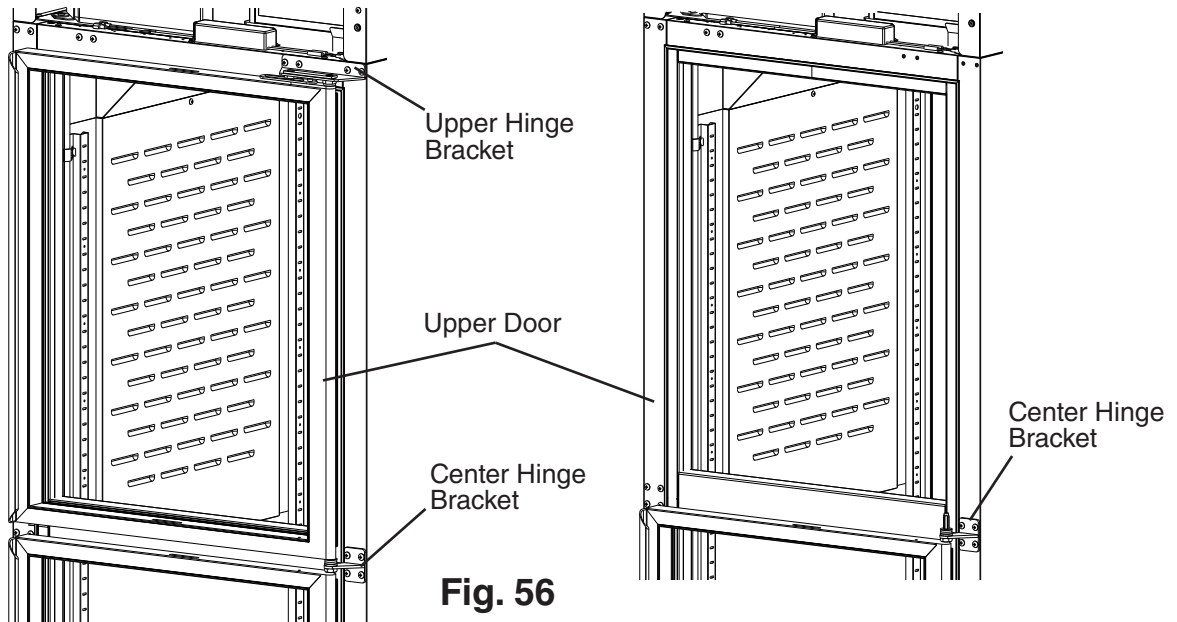

Fig. 56
- 8) Close the upper door, while maintaining a hold on the door, remove the upper hinge bracket, then lift the door off the center hinge bracket upper pin and set aside. See Fig. 56. Retain the upper door thrust washer and the center hinge bracket thrust washers and washer for opposite side hinge bracket installation. **NOTICE! Thrust washers must be in place to prevent wear and damage to the hinge brackets.**